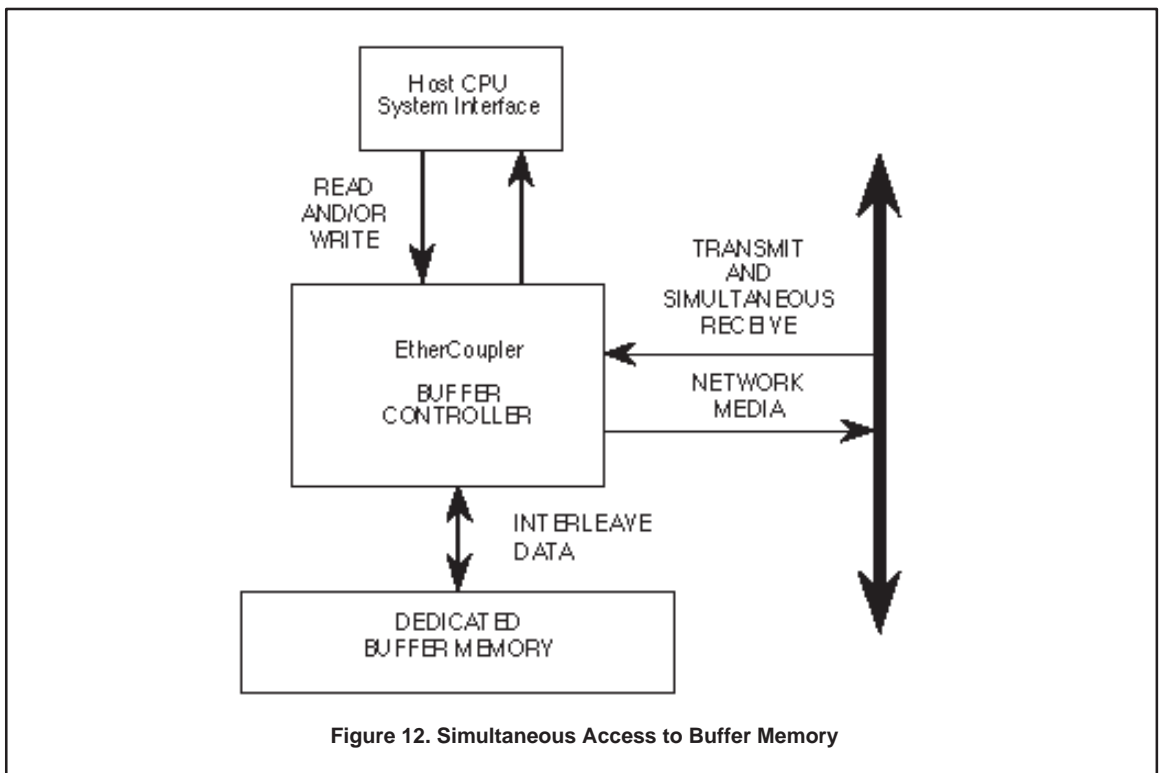

Figure 12. Simultaneous Access to Buffer Memory
As shown in Figure 12, packet data pipelines through the system to increase performance and throughput, with the Buffer Controller supporting all cases of simultaneous access to buffer memory, such as: (1) network data storage in the Receive buffer; (2) host retrieval of packets from the Receive buffer; (3) host loading of packet data into the Transmit buffer; (4) transmitter data acquisition for transmission from the Transmit buffer; and (5) any combination, including all of these, simultaneously.